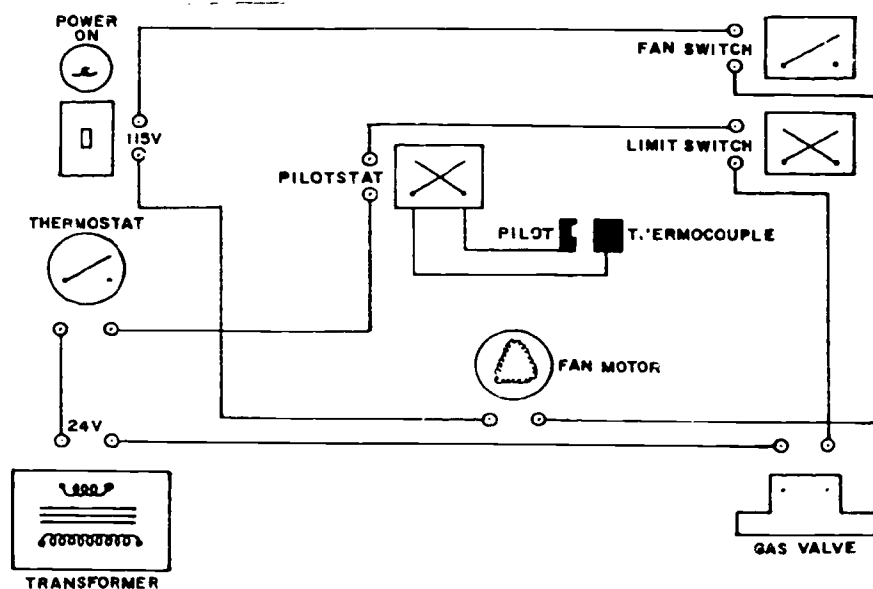

Figure 1. Warm-Air Furnace Low-Voltage Control Circuit
3. Wire the low voltage trainer, using figure 1 of this workbook as a guide.